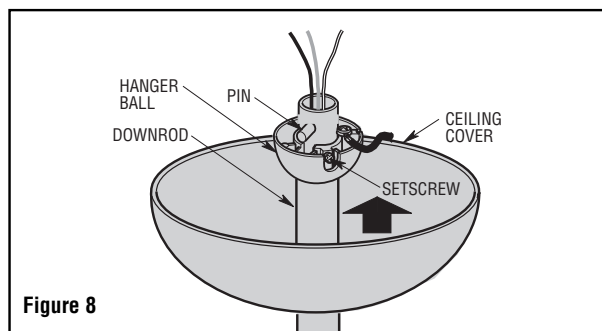

Figure 8
16. Reinstall the hanger ball (Figure 8) on the downrod as follows. Route the motor leads through the downrod. Position the pin through the two holes in the downrod and align the ball so the pin is captured in the groove in the top of the hanger ball. Pull the hanger ball up tight against the pin and securely tighten the setscrew in the hanger ball. A loose setscrew could create fan wobble.